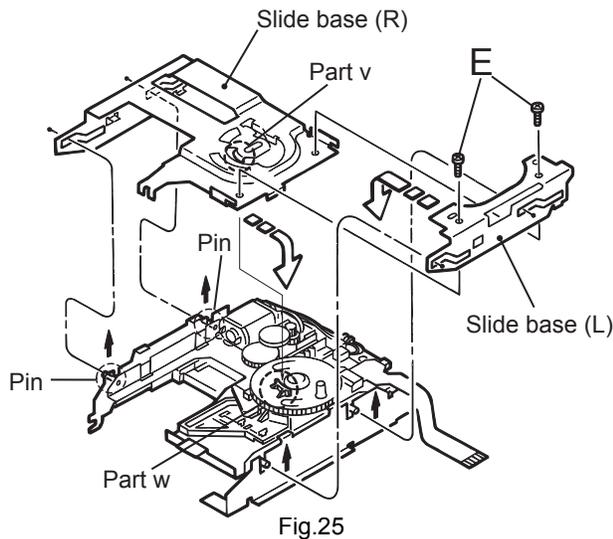

Fig.25
- (9) Reattach the slide base (R) while fitting the two pins on another side of the UD base to the slots of the slide base (R). (Fig.25)